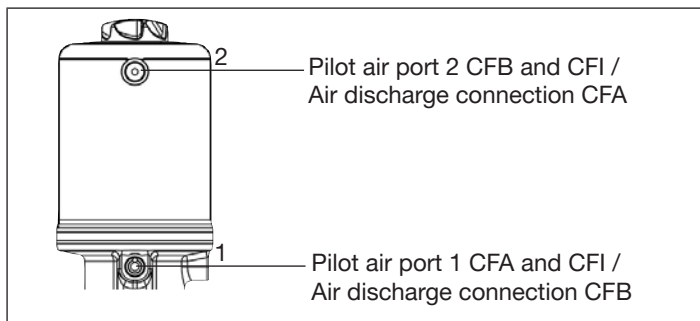

Fig. 26: Pneumatic connection
- Connect the control medium to the pilot air port 1 (see „Fig. 26: Pneumatic connection“).
- Connect the control medium to the pilot air port 1 and 2 (see „Fig. 26: Pneumatic connection“).